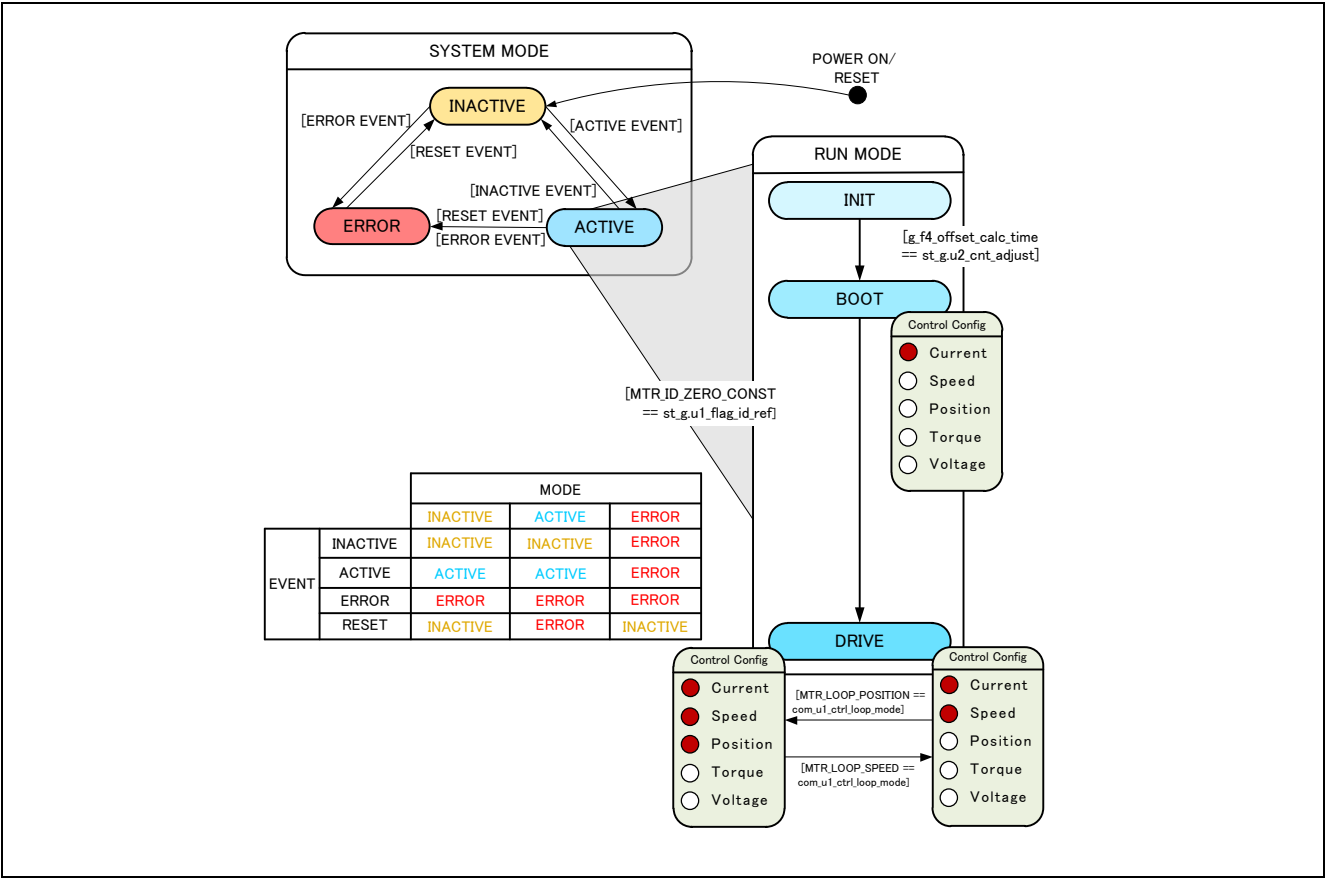

Figure 3-5 State Transition Diagram of Vector Control PMSM with Encoder Software
Figure 3-5 is a state transition diagram of the vector control software. In the target software of this application note, the software state is managed by 'SYSTEM MODE' and 'RUN MODE'. And 'Control Config' shows the active control system in the software.
- (1) SYSTEM MODE
- (2) RUN MODE
- 'RUN MODE' indicates the condition of the motor control. 'RUN MODE' transits sequentially as shown in Figure 3-5 when 'SYSTEM MODE' is 'ACTIVE'.
- (3) EVENT
- When 'EVENT' occurs in each 'SYSTEM MODE', 'SYSTEM MODE' changes as shown the table in Figure 3-5, according to that 'EVENT'.